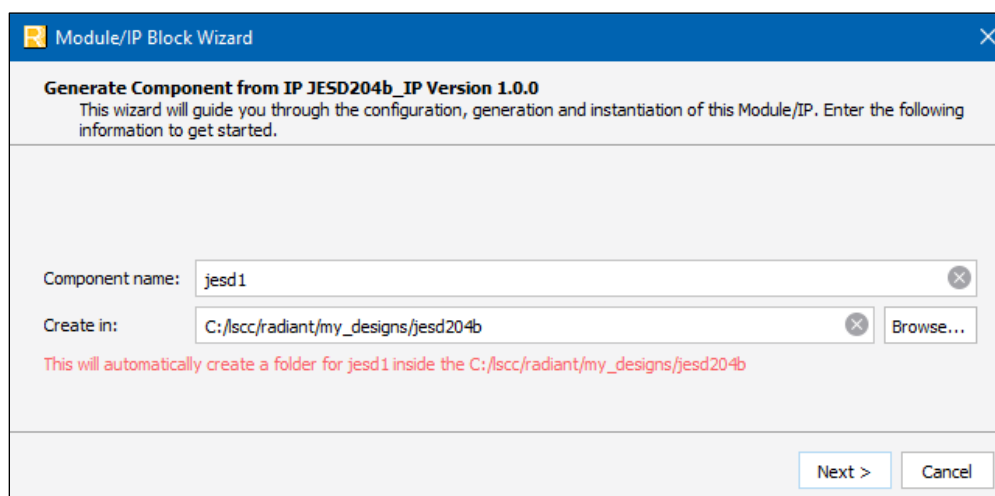

Figure 7.1. Module/IP Block Wizard
2. In the **IP Catalog** tab, double-click **JESD204B** under **IP, Connectivity** category. The **Module/IP Block Wizard** opens as shown in Figure 7.1. Enter values in the **Component name** and the **Create in** fields and click **Next**.
- Click **Finish**. All the generated files are placed under the directory paths in the **Create in** and the **Component name** fields shown in Figure 7.1.